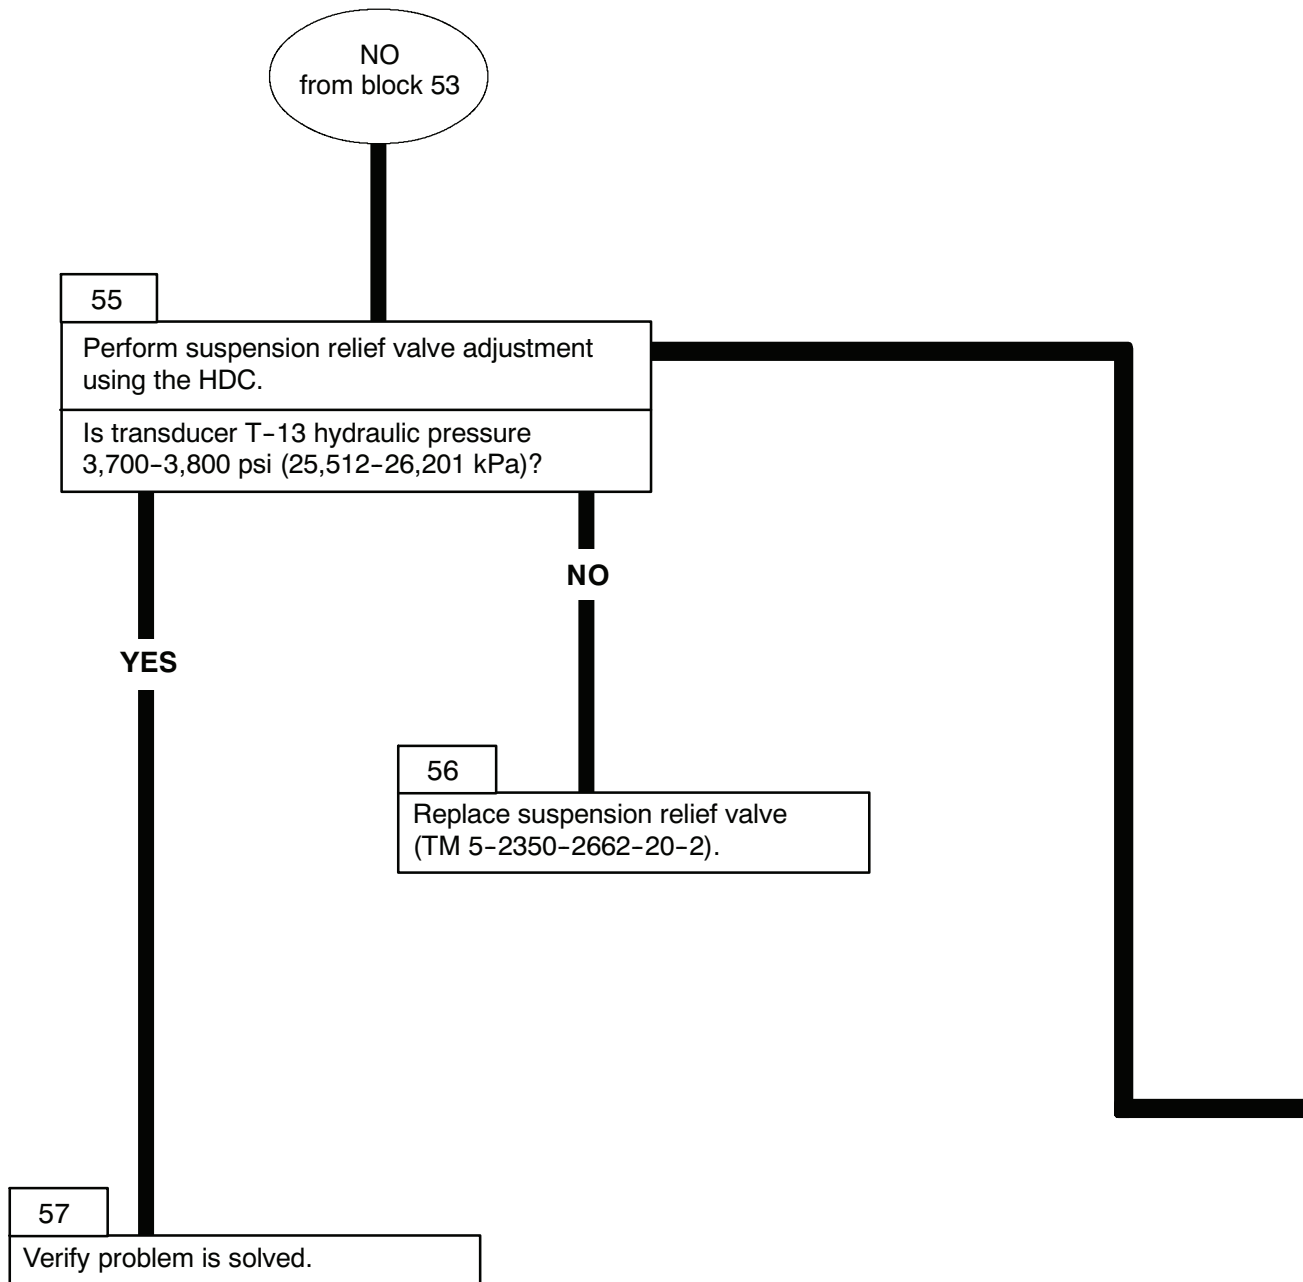

Figure 54. HDC Control Box
- Reset all HDC solenoid valves by selecting the RESET VALVES button (Figure 54, item 1) on the HDC control box.